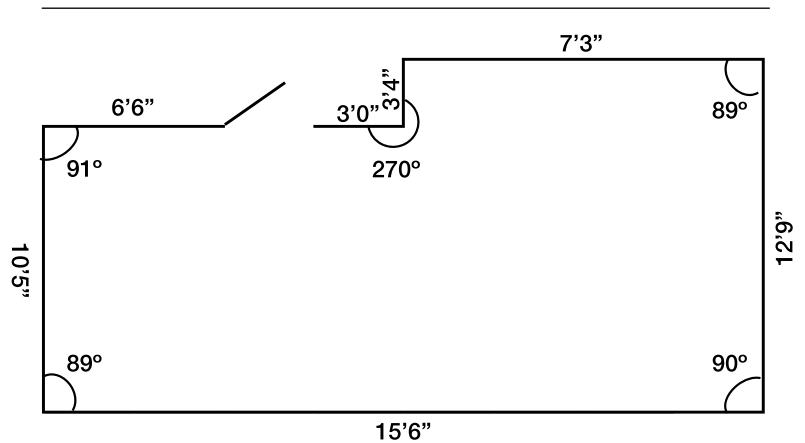

Fig 1.
2. Measure each wall and note it on your plan. [Fig 1.]